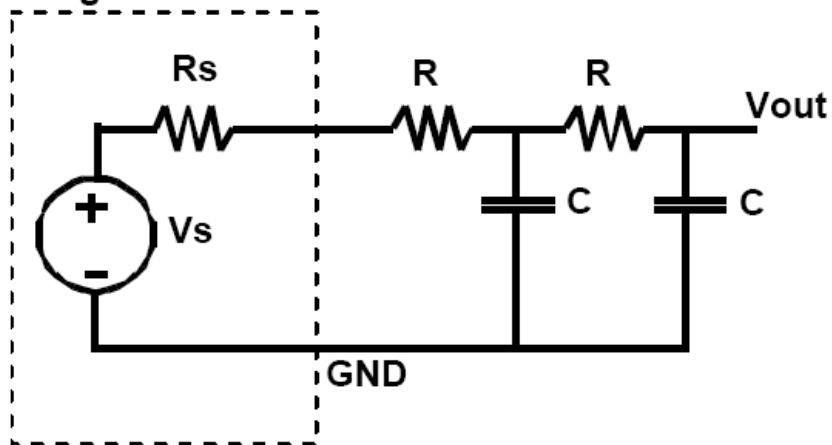

Figure 3. Two cascaded RC sections.
Figure 3 shows two sections of the first-order RC circuit connected in series to illustrate a simple technique to model computer bus systems (PCI bus, SCSI bus, etc.).
Another use of RC circuits is to model wiring characteristics of bus lines on integrated circuits (IC) or on printed-circuit boards (PCB). A wire can be modeled as many cascaded sections of simple RC circuits as shown in Figure 3 using 2 sections. When a square wave is applied to one end of the bus, it
1. Build the circuit in Figure 3, using 2 identical resistors $R = 10\text{ K}\Omega$ and 2 identical capacitors $C = 0.01\ \mu\text{F}$. Use the function generator settings as in section 7.3 above and display it on Channel 1.